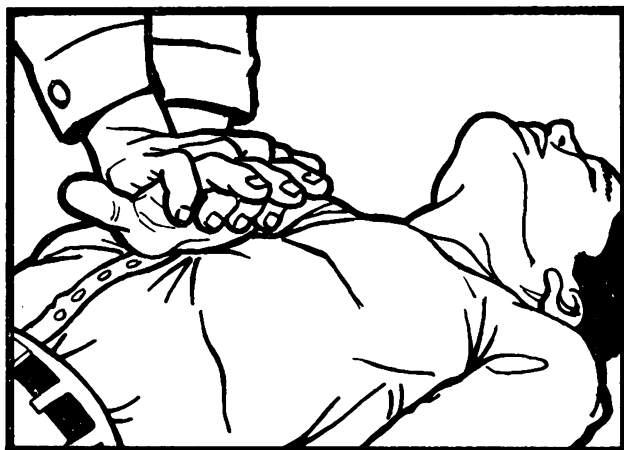

Figure 9.
(3) After placing the one hand in the correct position, place the other hand on top of the first hand and interlace the fingers (figure 9).